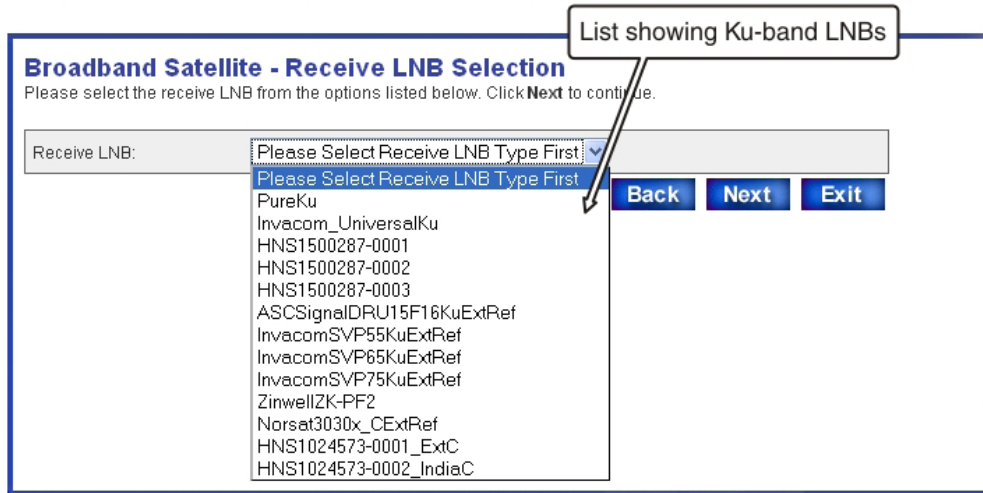

Figure 22: Receive LNB Selection screen—two variations
1. On the Receive LNB Selection screen, select the installed LNB from the Receive LNB drop-down list (*Figure 22: Receive LNB Selection screen—two variations* on page 34).